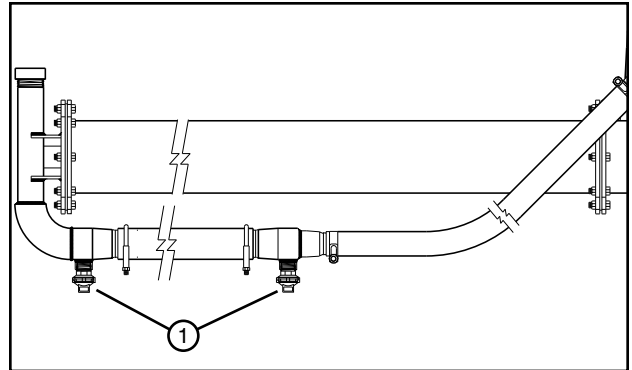

Figure 95-1 1. Booster Pump Hose Drain
- Make sure the booster pump hose drain is not plugged with sand or debris and the hose is completely drained See figure 95-1.